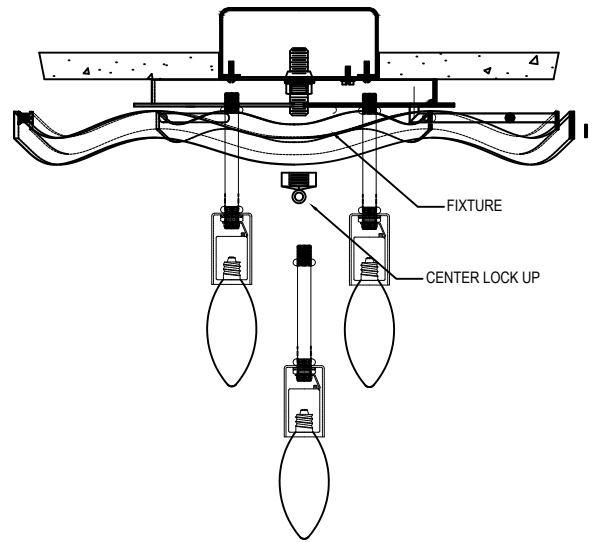

FIGURE-02
5. Attach the fixture to the junction box and secure it with center lock up. (See Figure-02)
7. Install accessories to the fixture, by placing the glass cover unto the chain/rod hang the glass on chain/rod end and secure it with glass clip.(See Figure-02)